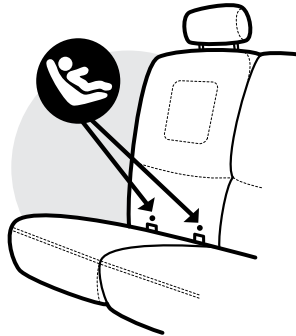

Figure 5
- If not readily visible, the LATCH lower anchors may be noted by a symbol located near the crease between the vehicle seat back and vehicle seat cushion, as shown in **Figure 5**.